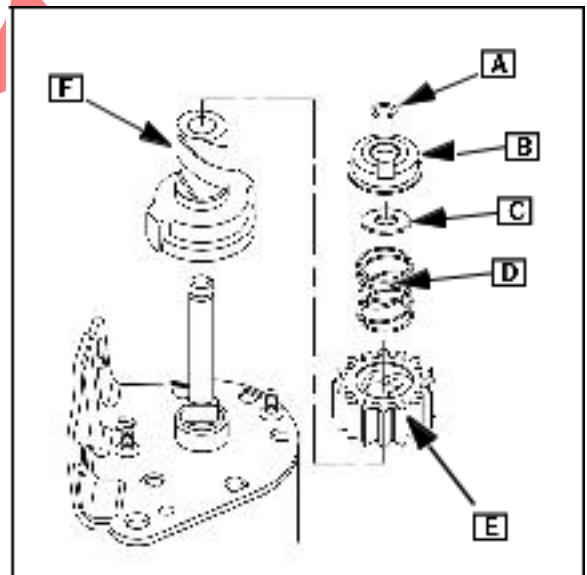

Fig. 42
Remove retainer (B), washer (C), return spring (D), pinion gear (E), and starter clutch ([F] Fig. 42).
Inspect the pinion gear ([E] Fig. 42) for damaged teeth.
Correct any sticking between pinion gear and starter clutch (F) helix, Fig. 42.
The pinion gear (E), clutch (F), and C-ring ([A] Fig. 42) are available as separate service parts from your Briggs & Stratton source of supply.
1. Place starter clutch ([F] Fig. 42) on starter shaft. Turn clutch until it drops into place.
Place new C-ring ([A] Fig. 42) over chamfered end of shaft. Press C-ring on until it snaps into groove in shaft.